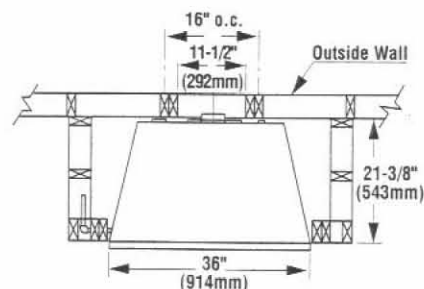

Figure 3
**Step 1.** Frame appliance enclosure as illustrated in Figures 3 through 5.